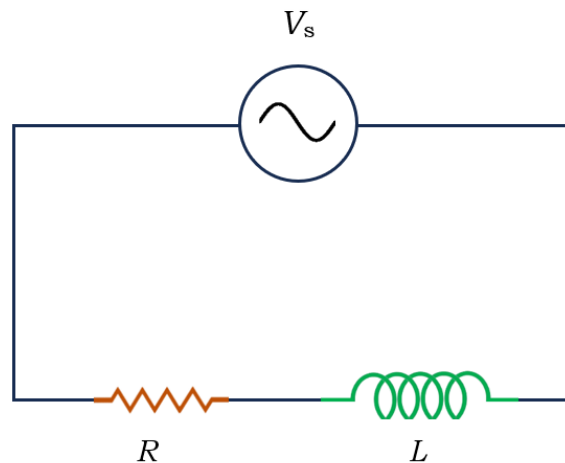

Fig. 1: R - L circuit
An inductor (L) is defined as an electrical element that is used in most electrical circuits to store energy in the form of magnetic energy when electric current flows through it. It is also known as coil, choke or reactor. Consider an AC circuit (**Fig. 1**) consisting of an inductor L connected in series to a resistor R and to a Function Generator which is an AC power source (V_s).